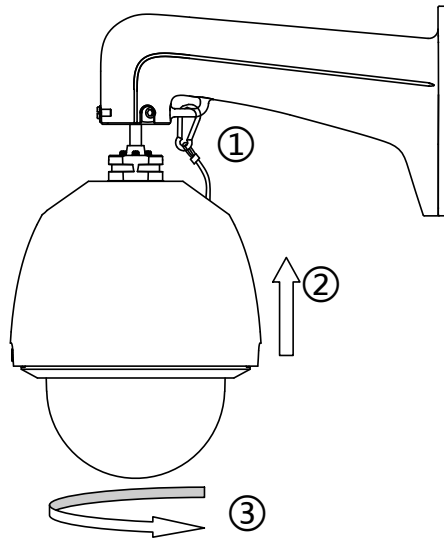

Figure 2-17 Mount the Dome
1. Hang the safety rope to the speed dome and then hook to the bracket as shown in Figure 2-17.